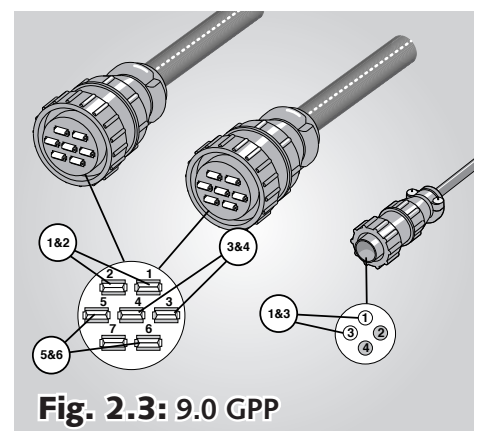

Fig. 2.3: 9.0 GPP
9.0 GPP:	1 & 2 / 3 & 4 / 5 & 6 (See Fig. 2.3)
- 9.0 GPP: Check each of the Voltage terminal pairs on both of the output connectors for approximately 67 Volts RMS AC. Pairs: 1 & 2, 3 & 4 and 5 & 6 (See Fig. 2.3). Also, check for